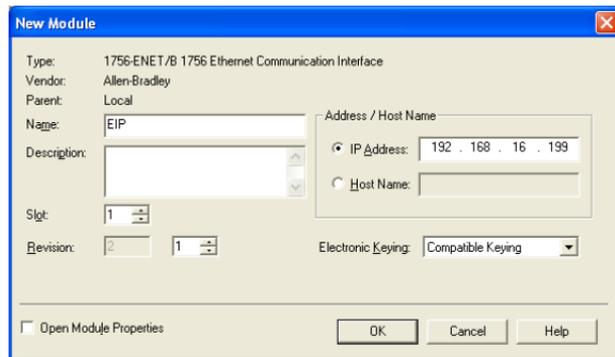

Figure 36: Identifying the New Module
- The “New Module” window will open. Refer to Figure 36.